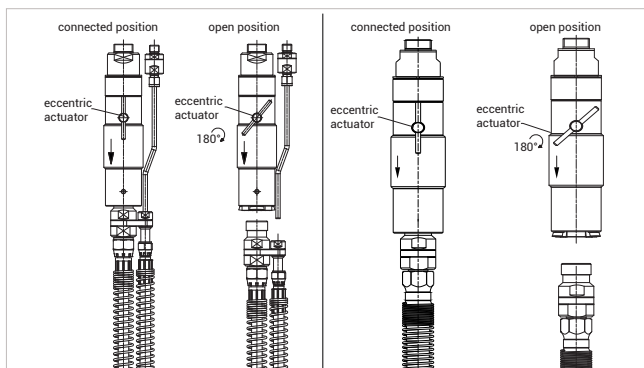

Figure 13
- ▶ Turn the eccentric actuator (Pos. 2) by 180° (*Figure 13*)